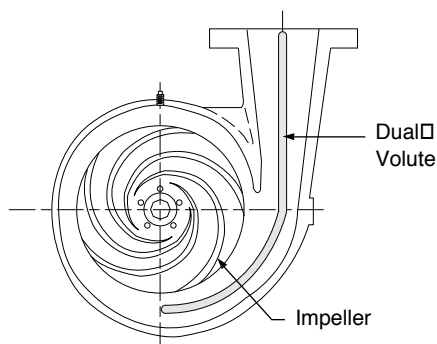
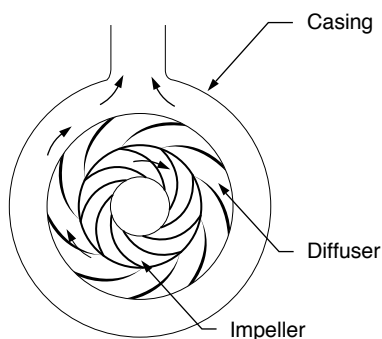

FIGURE 27. Volute Casing
FIGURE 28. Diffusion Vane Casing
- **Note:** As the area increases, the velocity decreases. This velocity can be converted into pressure energy by either of the following: a volute (Figure 27), or a set of diffusion vanes surrounding the impeller periphery (Figure 28).